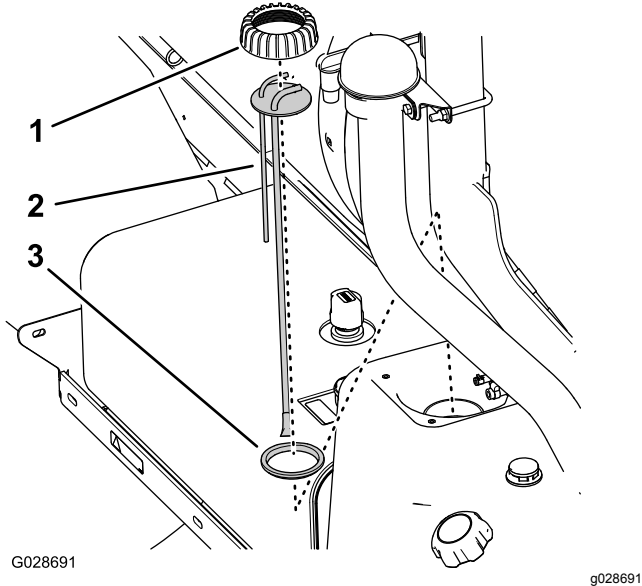

Figure 77
5. Rotate the standpipe cap counterclockwise to remove the cap (Figure 77).
6. Lift the fuel-standpipe/sender assembly from the fuel tank (Figure 77).
1. Assemble the standpipe cap over the standpipe and the standpipe to the seal (Figure 77).
2. Align the cap, standpipe, and seal to the tank and carefully insert the new standpipe assembly into the fuel tank (Figure 77).
3. Thread the cap onto the neck of the fuel tank and tighten the cap hand-tight (Figure 77).